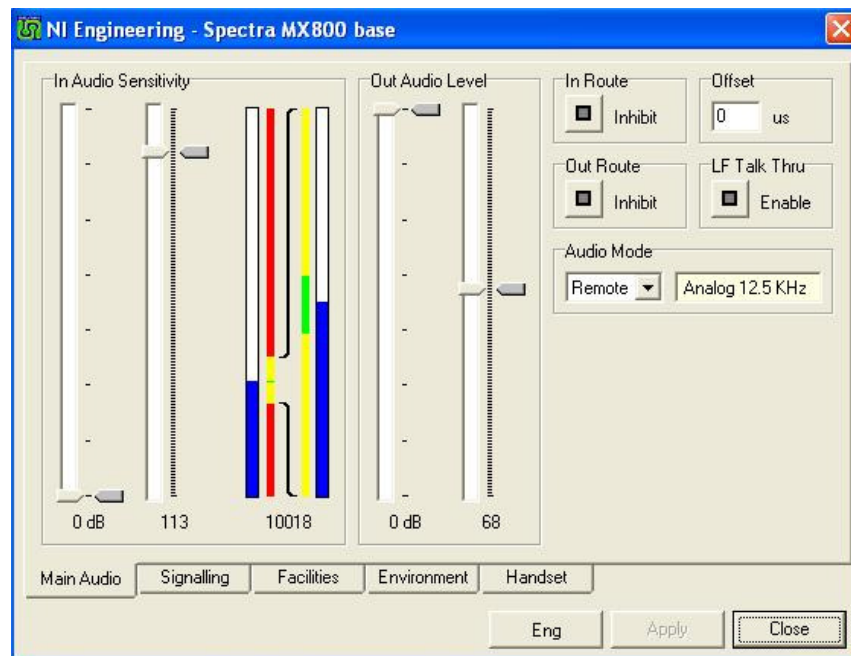

Figure 7. NI Engineering – Main Audio tab, “In Audio Sensitivity” settings.
10. On the NI ET, on the Main Audio tab of the NI Engineering window, adjust the “In Audio Sensitivity” controls for an indication of 10,000 with the blue bar close to the middle of the green section (see **Figure 7** below). Approximate settings are: the coarse control to 0 dB and the fine control to around 112. (Expect small variations between receivers).